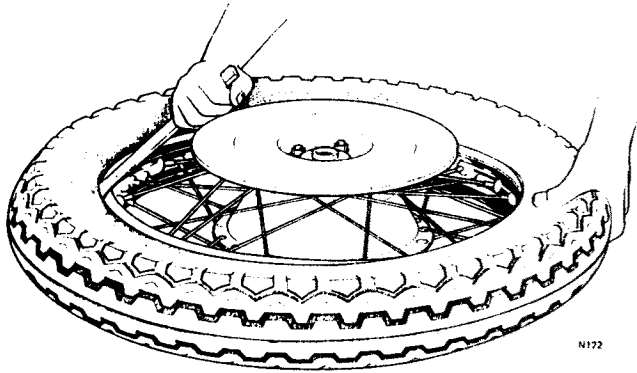

Fig. H10 Levering close to valve whilst pressing opposite bead down into rim
6 Insert the first lever between the tire valve and rim at the valve position, press the opposite side of the tire down into the rim well and apply leverage (see *Fig. H10*).
- 7 Insert the first lever between the tire valve and rim at the valve position, press the opposite side of the tire down into the rim well and apply leverage (see Fig. H10).